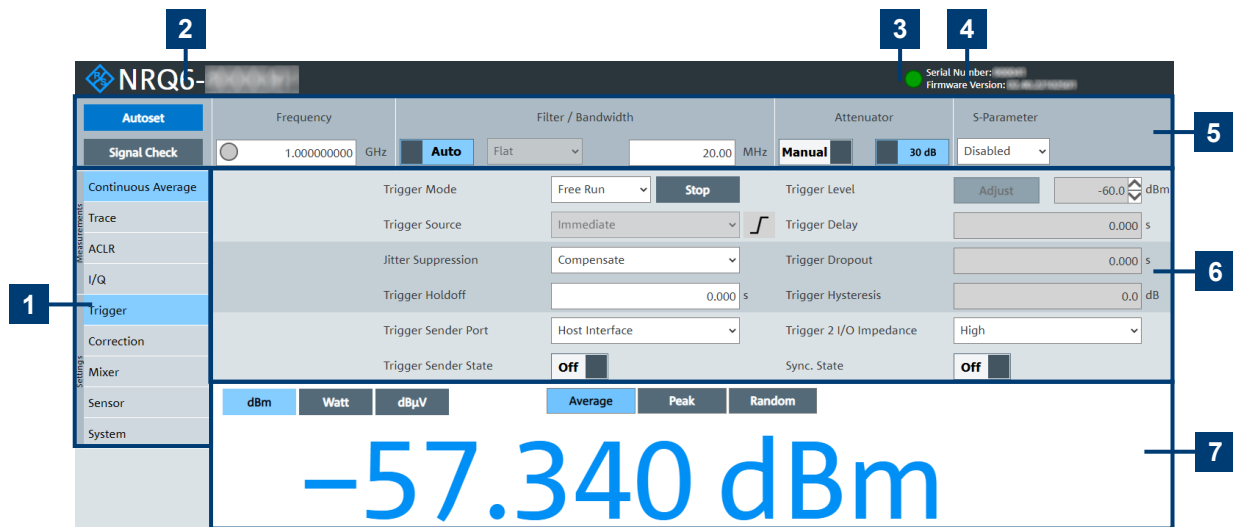

Figure 5-1: Layout of the web user interface
The main dialog of the web user interface opens. See also Figure 5-1.
(1) in Figure 5-1
(2) in Figure 5-1
(3) in Figure 5-1
(4) in Figure 5-1
(5) in Figure 5-1
(6) in Figure 5-1
(7) in Figure 5-1